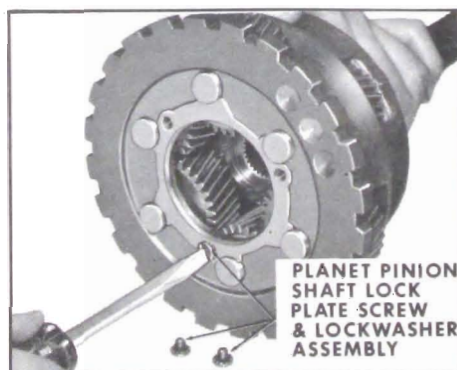

Figure 5-244
1. Remove three (3) planet pinion shaft lock plate screw and lock washers. See Figure 5-244.